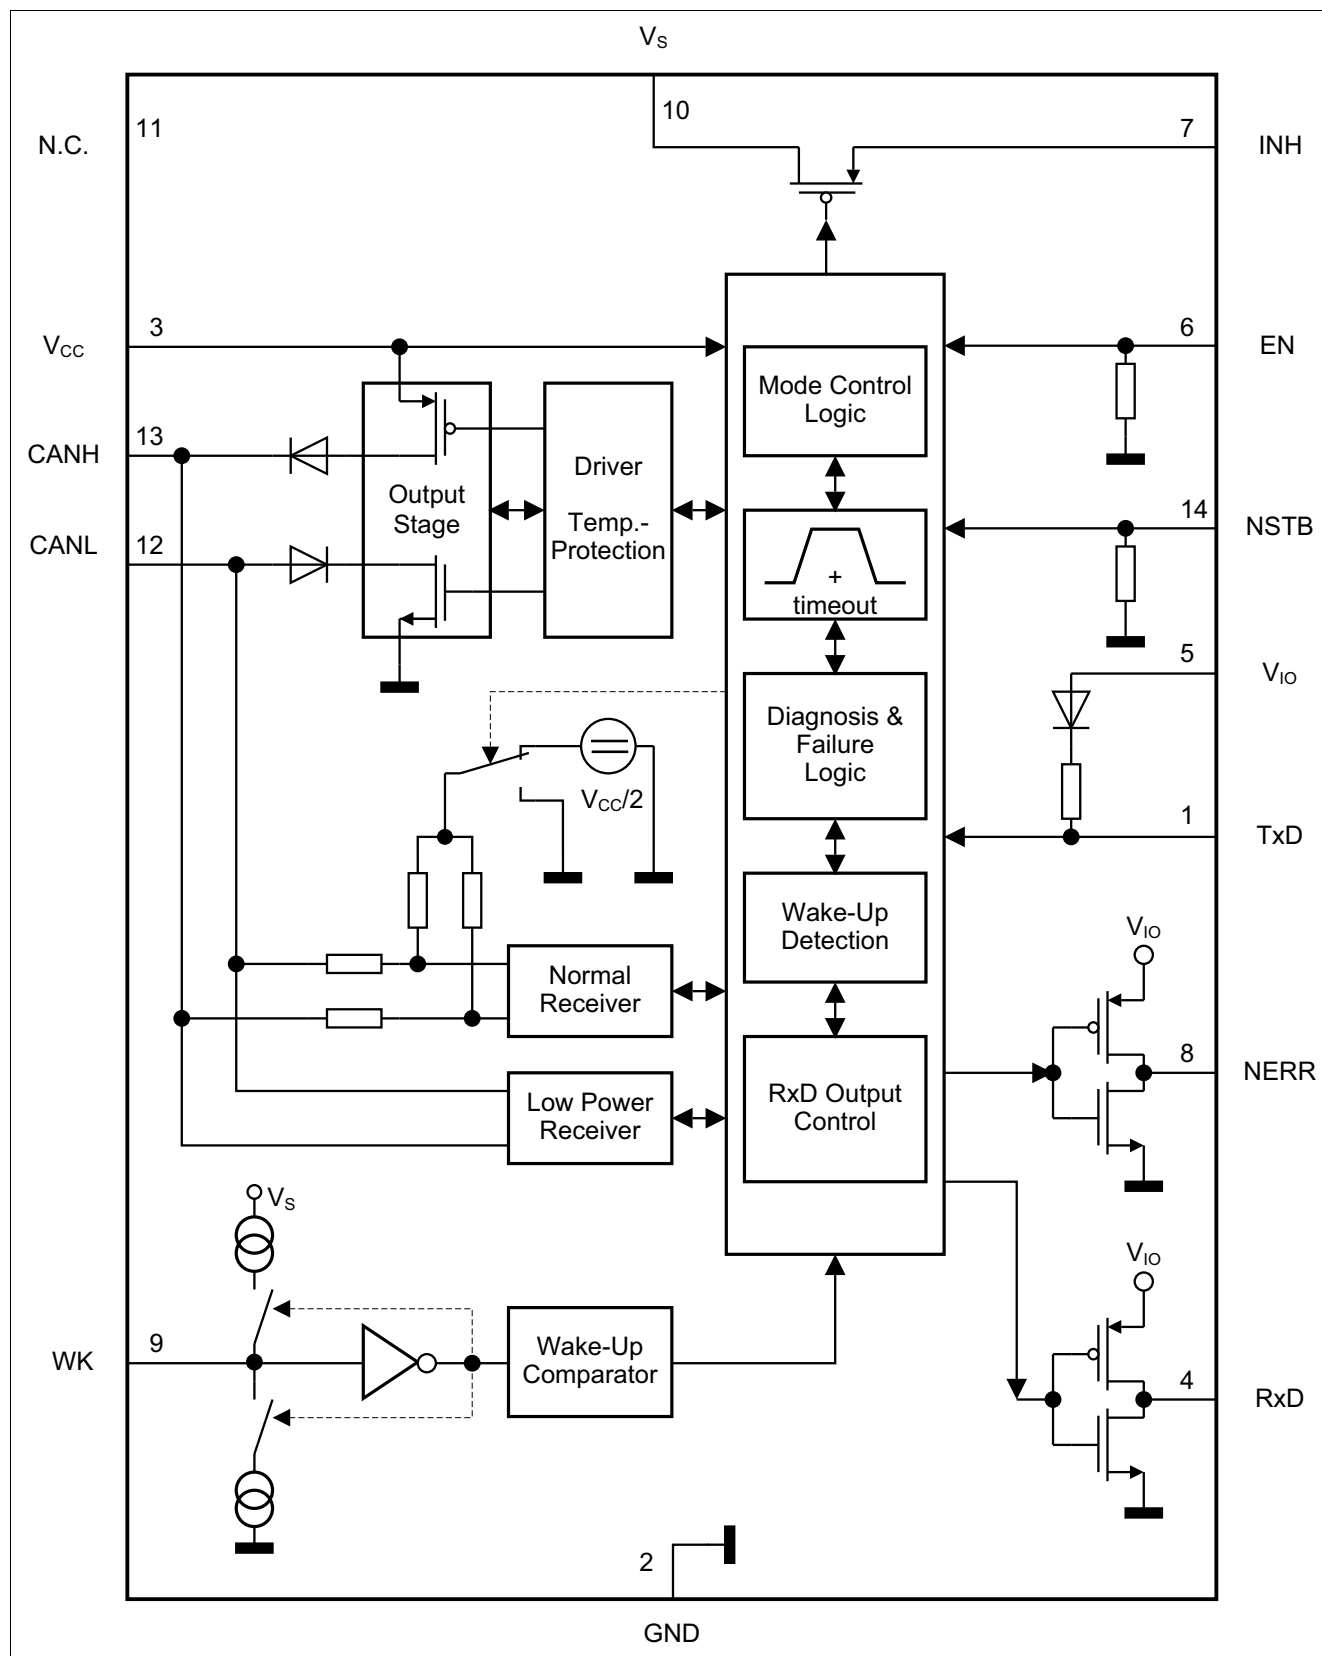
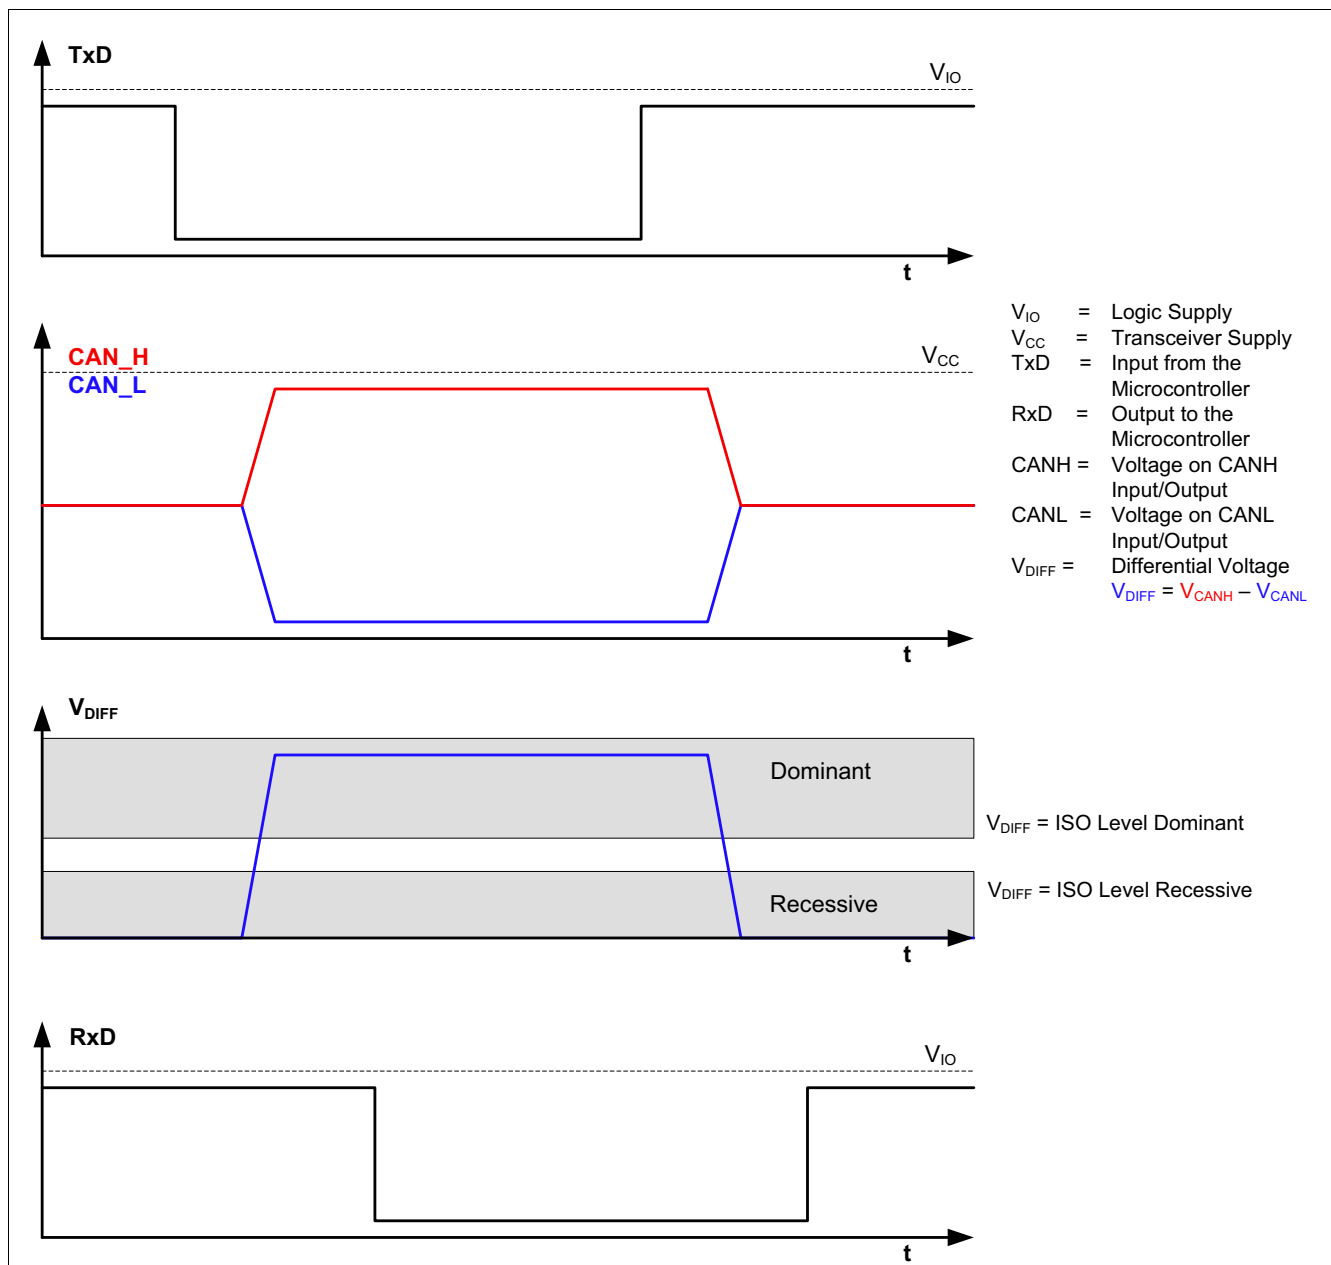

Figure 1 Block Diagram
Figure 3 High Speed CAN Bus Signals and Logic Signals
The TLE6251-3G is a High Speed CAN transceiver, operating as an interface between the CAN controller and the physical bus medium. A High Speed CAN network (abbreviated HS CAN) is a two wire differential network which allows data transmission rates up to 1 MBaud. Characteristic for a HS CAN network are the two CAN bus states dominant and recessive (see Figure 3).
The input TxD and the output RxD are connected to the microcontroller of the ECU. As shown in Figure 1, the HS CAN transceiver TLE6251-3G has a receive unit and a output stage, allowing the transceiver to send data to the bus medium and monitor the data from the bus medium at the same time. The HS CAN TLE6251-3G converts the serial data stream available on the transmit data input TxD into a differential output signal on CAN bus. The differential output signal is provided by the pins CANH and CANL. The receiver stage of the TLE6251-3G monitors the data on the CAN bus and converts them to a serial data stream on the RxD pin. A “low” signal on the TxD pin creates a dominant signal on the CAN bus, followed by a “low” signal on the RxD pin (see Figure 3). The feature, broadcasting data to the CAN bus and listening to the data traffic on the CAN bus simultaneously is essential to support the bit to bit arbitration on CAN networks.
- Through the internal resistors R_I (see Figure 1), the pins CANH and CANL are connected to GND.